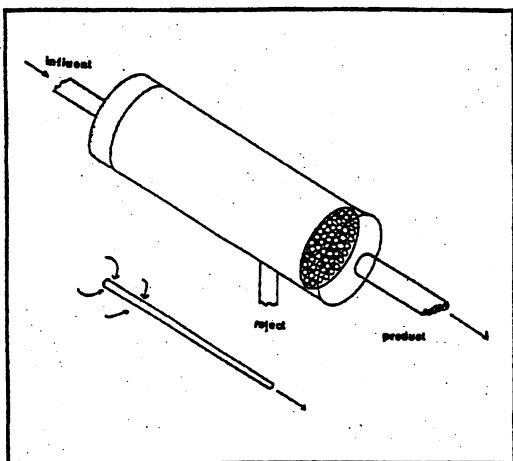

Figure 4-4: The hollow fiber configuration for RO systems.
4. A hollow fiber design allows contaminated water to flow into a vessel with encased hollow fibers. Permeate (product water) is discharged through the end of the hollow fibers. This design is typically used for polyamide membranes. See Figure 4-4.